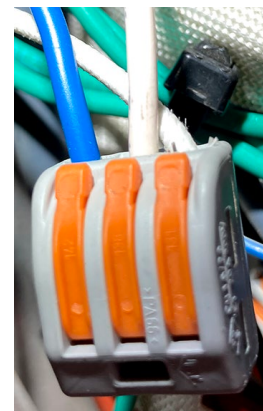

Figure 24
28. Locate the white line voltage wire and insert the white line voltage wire and the blue and white wire from the new harness into a Wago snap connector (see Figure 24).